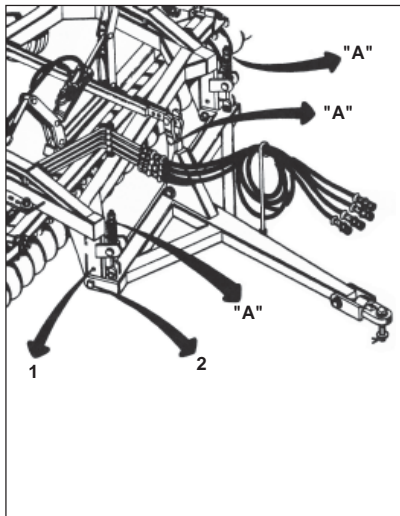

FIGURE 16
- 2 - To open or close the grid, remove the screws securing the frame at the moment and take off the frames on an ideal setting, as shown in figure 16.
SETTING THE CROSSBAR (FIGURE 16)
5 - Coupling arms are welded on the header, which have two holes, as shown in **FIGURE 16**, whose main purpose is the leveling of the header of the grid relative to the tractor drawbar.
STABILIZER ROD ADJUSTMENT AND STABILIZER BAR HOLDER (FIGURE 16)
8 - Leave a clearance of 10 to 20 mm between the nut and stabilizer rod spring back; also observe a gap of 10 to 20mm between the support of the stabilizer bar and the holder header as the letter "A" on **FIGURE 16**.